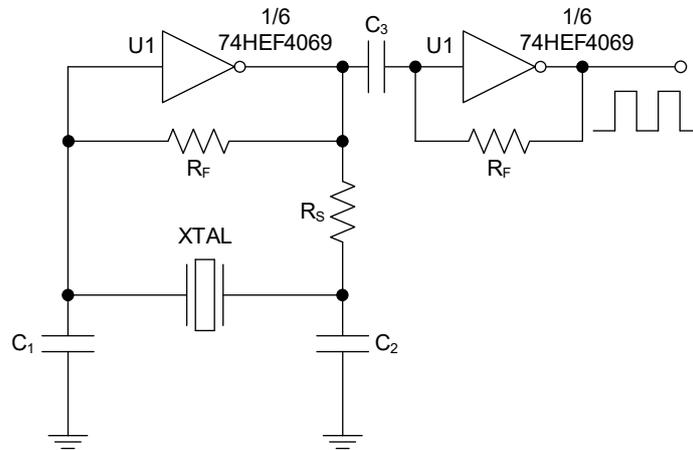
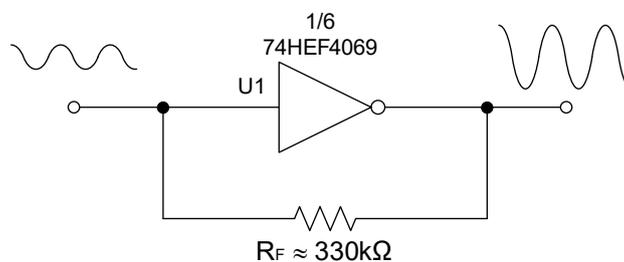

Figure 3. Typical Crystal Oscillator
Figure 6. Typical High-Input-Impedance Amplifier
1. The curves are measured using the circuit shown in Figure 6.
Figure 3 to Figure 6 show some typical application examples of 74HEF4069.